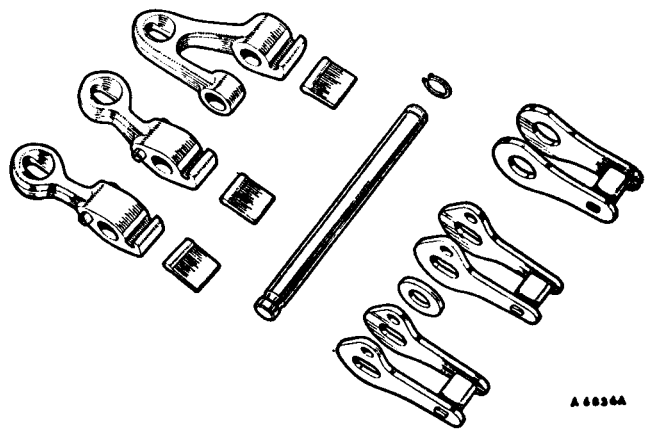

Fig. Fa.59
9. Assemble the struts, washer(s), reaction levers, and servo levers in the reverse order of dismantling (Figs. Fa.59 and 61).
11. Carry out the operations detailed in Section Fa.6, items 33 to 48, 53, and 54.